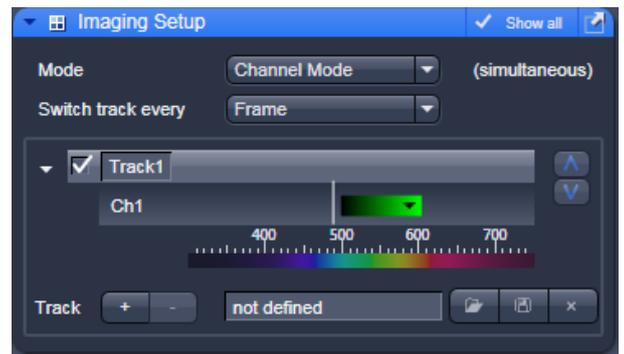

Fig. 17 Imaging Setup tool for a single track (LSM)
- Select **Channel Mode** if necessary (Fig. 17).
The following functions are available in the **List of Tracks** panel in the **Imaging Setup Tool** (Fig. 17, Fig. 18 and Fig. 19).